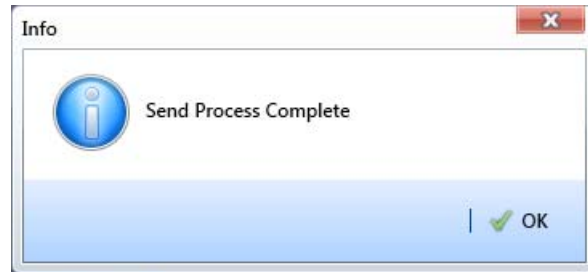

Figure 13-9. Send Process Complete
- Click  **OK** when the message *Send Process Complete* displays (Figure 13-9). If you selected to send the survey file to the Allegro, the survey file transfers to the *PSData* folder on the Allegro.